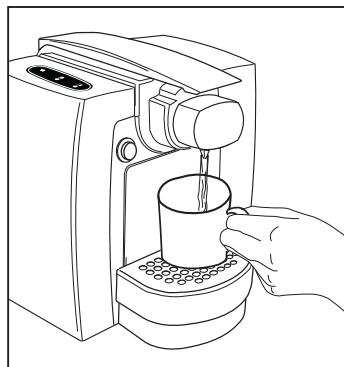

Fig.6
- To prepare espresso lungo, place the grid (5) at its lower position **(Fig. 6)**